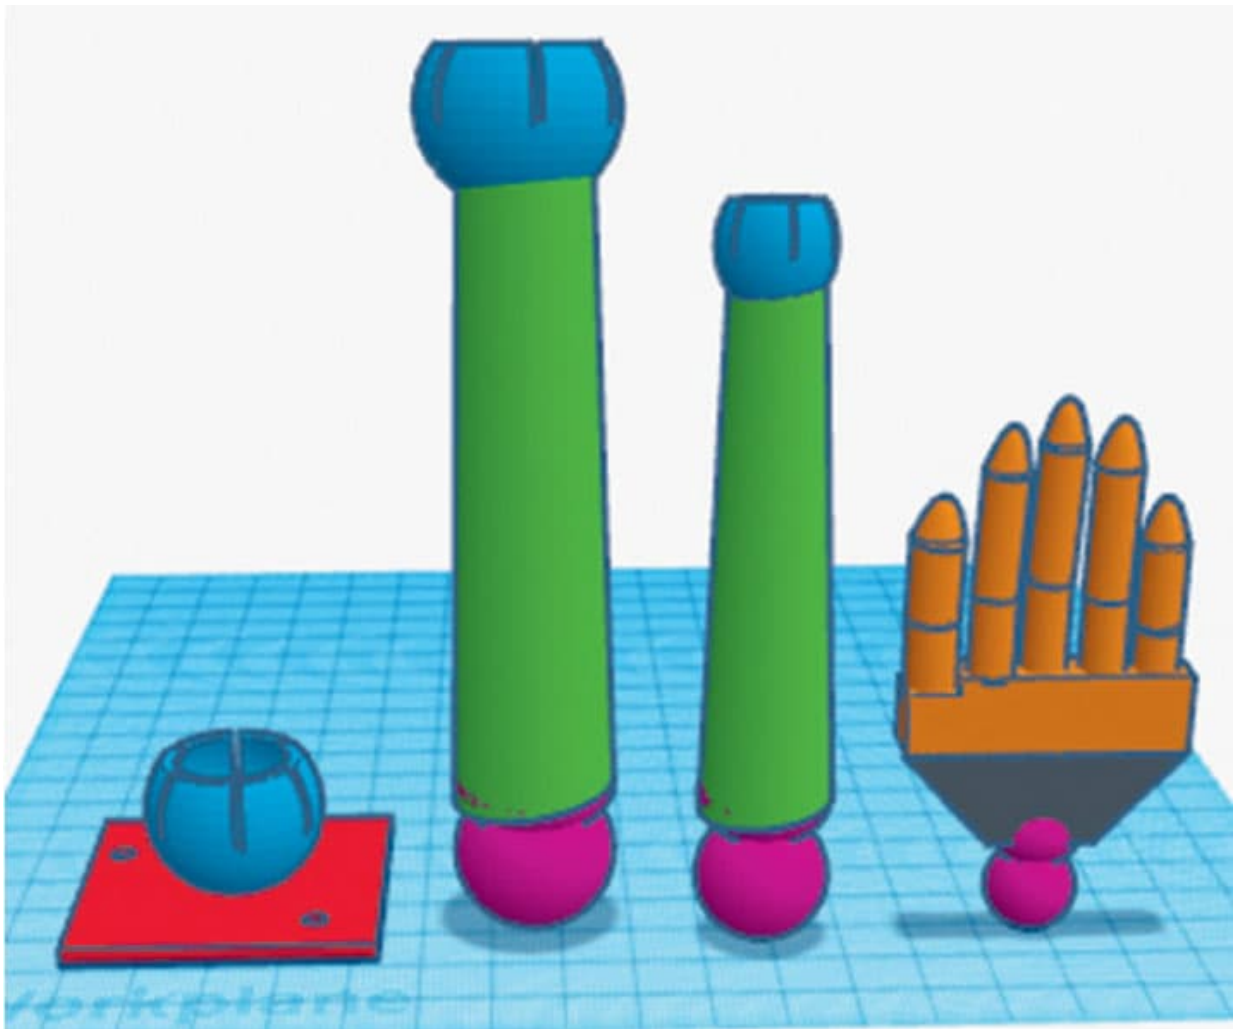

FIG. 5: *The positioning of parts for 3D printing.*
7. Prior to printing, we will need to reposition some of the parts. The sockets of each joint attach to the part above it, and the ball attaches to the part following it in the sequence of parts of the arm. See fig. 5 for the print layout.